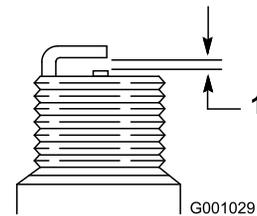

Figure 30
4. Set the gap between the electrodes on a new spark plug at 0.76 mm (0.030 inch) as shown in Figure 30.